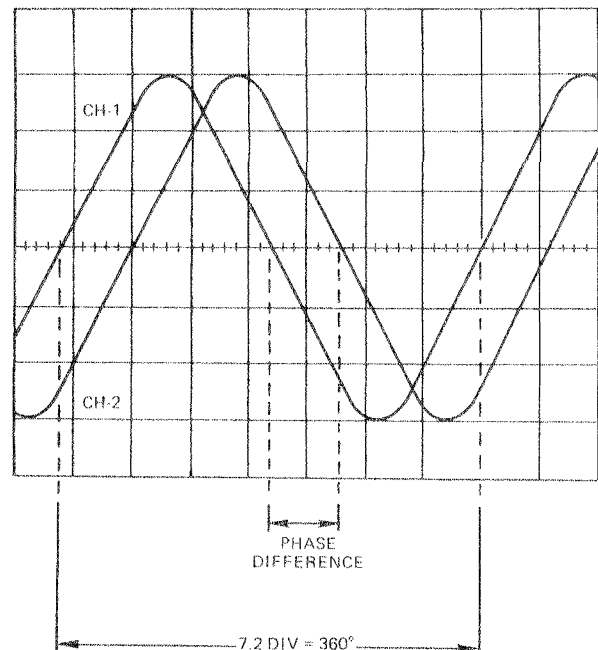

Figure 2-14. Dual-trace Method of Phase Measurement
2. Set the TRIG pushbutton (27) for the channel with the cleanest and most stable trace. Temporarily move the other channel's trace off the screen by means of its Vertical Position control.
3. Center the stable (trigger source) trace with its Vertical Position control, and adjust its amplitude to exactly 6 vertical divisions by means of its VOLT/DIV switch (10) and VARIABLE control (11).
4. Use the LEVEL control (25) to ensure the trace crosses the central horizontal line at or near the beginning of the sweep. (See Figure 2-14).
5. Use the TIME/DIV switch (17), its VARIABLE control (18), and the horizontal Position control (20) to display one cycle of trace over 7.2 divisions. When this is done, each major horizontal division represents 50° , and each minor division represents 10° .
6. Move the off-screen trace back on the CRT with its Vertical Position control, precisely centering it vertically. Use the associated VOLTS/DIV switch (10) and VARIABLE control (11) to adjust its amplitude to exactly 6 vertical divisions.
7. The horizontal distance between corresponding points on the waveform is the phase difference. For example, in Figure 2-14 illustration the phase difference is 6 minor divisions, or 60° . You can now use the Horizontal Position control (20) to align one of the mid-cycle zero crossings with a graticule calibration to facilitate this measurement.
8. If the phase difference is less than 100° (two major divisions), press the MAG pushbutton (19), and use the Horizontal Position control (20) (if needed) to position the measurement area back on screen. With 5X magnification, each major horizontal division is 10° , and each minor division is 2° .